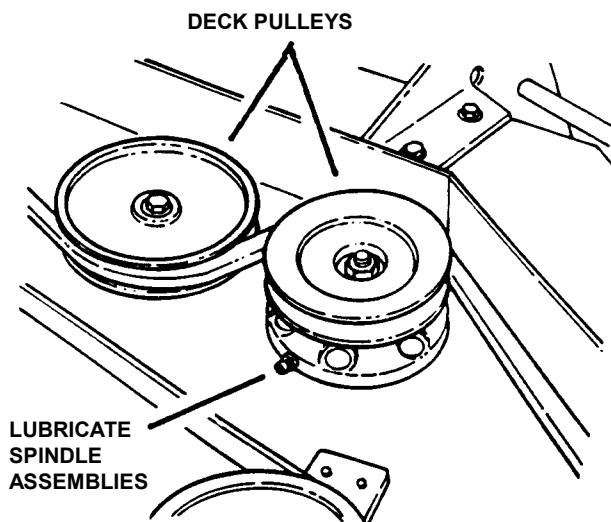

FIGURE 4.4
- Remove cover to gain access to lubrication fitting located on the top of deck below deck pulleys. Lubricate with Kendall NLGI No. 2 lithium grease or equivalent, from a grease gun until grease purges from vent located on spindle housing underneath deck. See Figure 4.4.